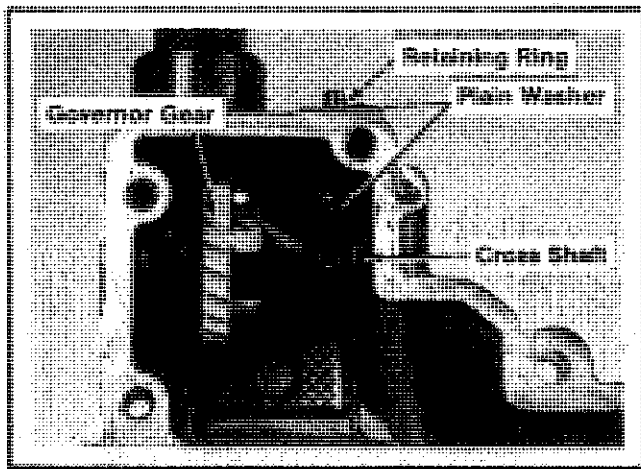

Figure 9-37. Removing Governor Gear.
2. Remove the governor gear from stub shaft. Refer to Figure 9-37.